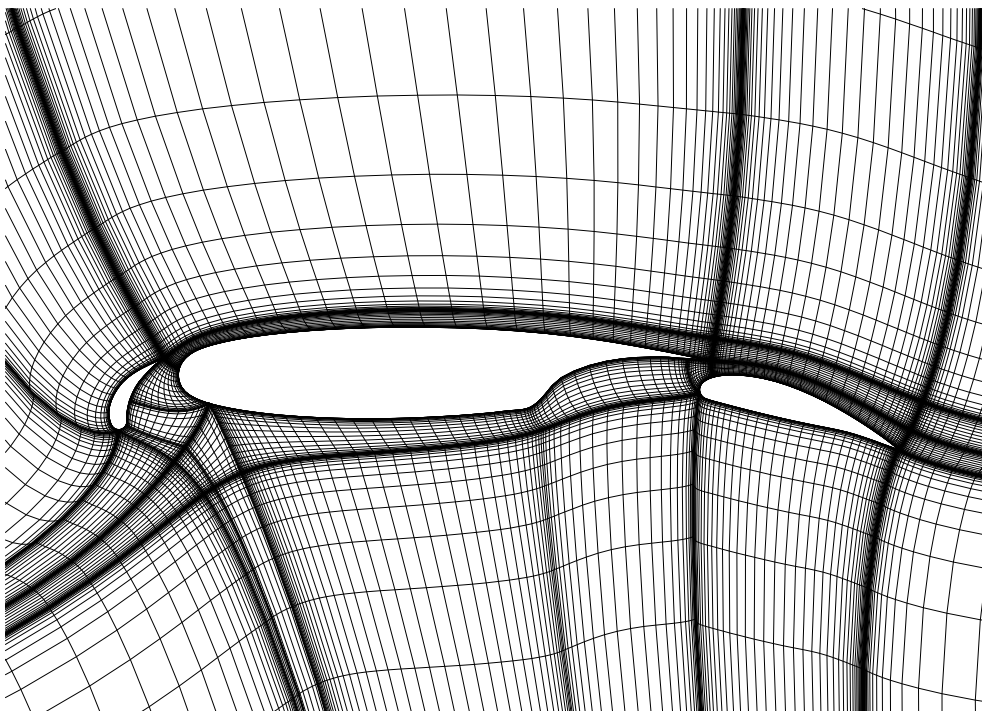

Figure 6.5: Algebraic grid for Test Case 2
5. Algebraic H-grid plot (figure 6.5)